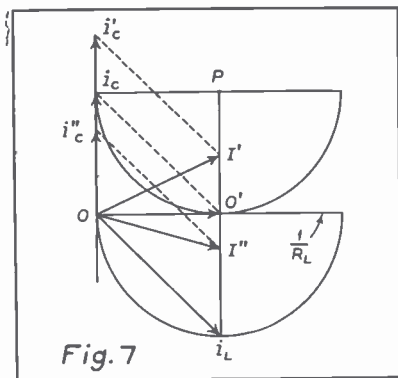

Fig. 7
From Fig. 7,
With the resistance of the capacitive branch negligible, the only in-phase component of current is that of the inductive branch, so that at unity power factor resonance the external current is just the active component of the inductive branch. In Fig. 7 the active component of the current in the inductive branch is equal to,  $i_L \cos \phi_L$  or  $1/Z_L \times R_L/Z_L = R_L/Z_L^2$ . Thus the impedance of the combination becomes  $Z_L^2/R_L$ . From equation (13) the quantity